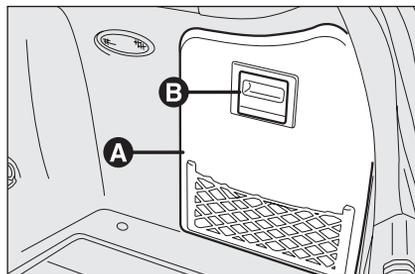

fig. 42
- use handle **B** to open the right lid (where provided) **A-fig. 42**;